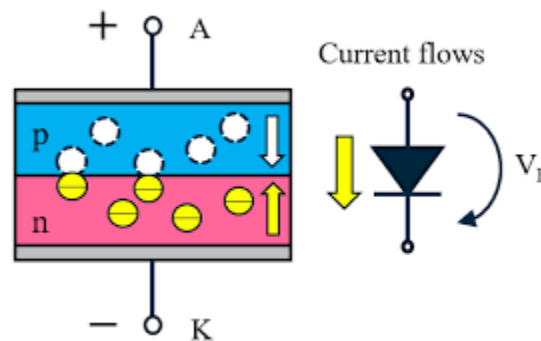

Figure 1: Diode Function and Depletion Region
- **Figure 1 shows the diode function and depletion region**